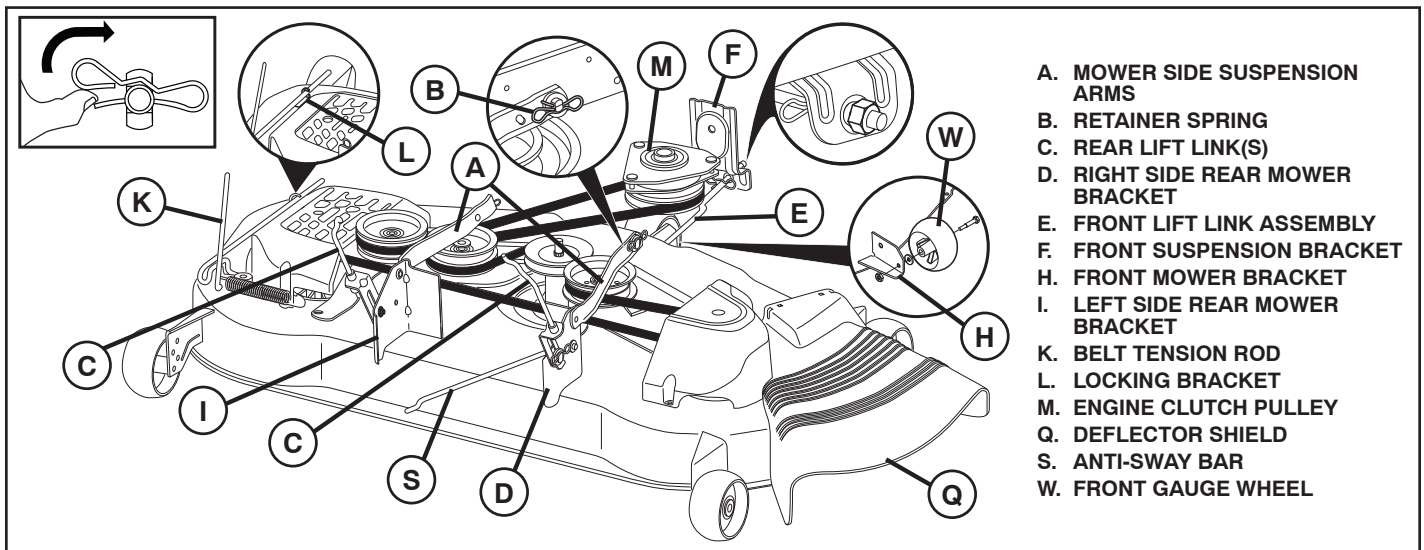

Fig. 7
## 9 INSTALL BELT ON ENGINE CLUTCH PULLEY (M) (See Fig. 7 and 15)
- Disengage belt tension rod (K) from locking bracket (L).
- Install belt onto engine clutch pulley (M).